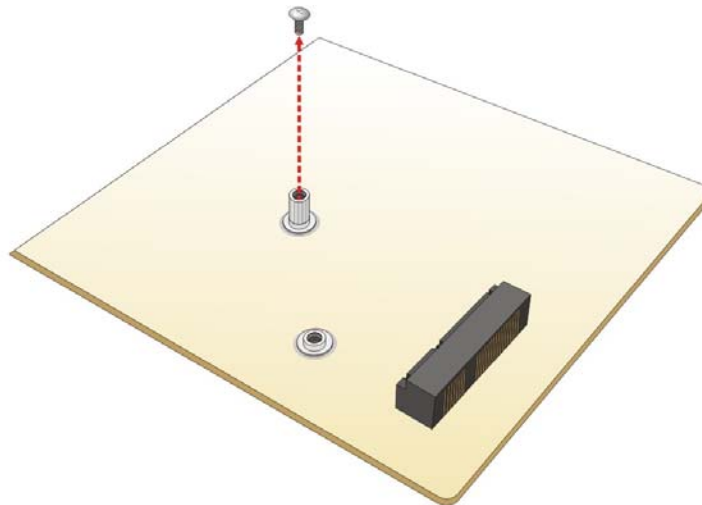

Figure 3-9: Removing the Retention Screw
Step 4: Remove the retention screw. Remove the retention screw as shown in Figure 3-9.